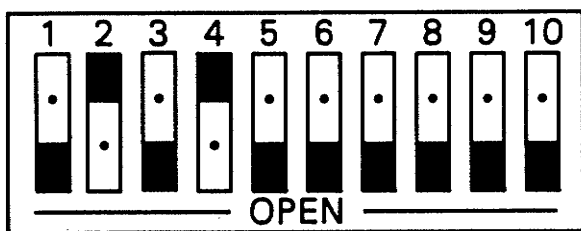

Figure 51. Programmed Idle Cycles
- F. The DIP SWITCH (Item F, Fig. 50) is a ten position, programmable switch. The DIP SWITCH control has the ability to be user programmed to select the sequence and mode of operation for eight consecutive idle cycles after either the PUSH TO FREEZE or spigot switch has been activated. This is accomplished by the first eight of the ten positions. The function of the eight positions is as follows: Each one of the switches (positions) represents one programmed cycle. As an example; switch #1 represents the first programmed cycle, switch #2 represents the second programmed cycle, etc. If the switch is in the closed position, both the auger drive motor and the compressor will switch on and shut off at consistency. If the switch is in the open position, only the compressor will run for the preset ON time. As the control is running through the eight programmed cycles and subsequent idle cycles, intermittent agitation is necessary. Every eighth consecutive idle cycle in which the product has not reached consistency, the drive motor will switch on for 10 to 12 seconds while the compressor is running (Fig. 51).